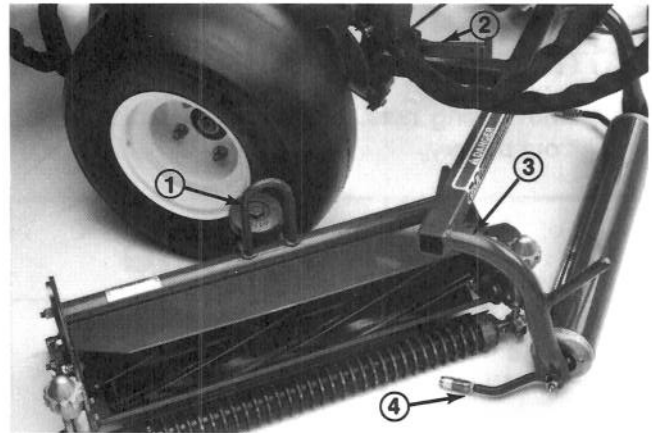

Figure 4
INSTALL CUTTING UNITS (Fig. 4–8)
2. Slide the cutting units under the pull frames and position the hoop on the top of cutting units over the lift arms (Fig. 4).